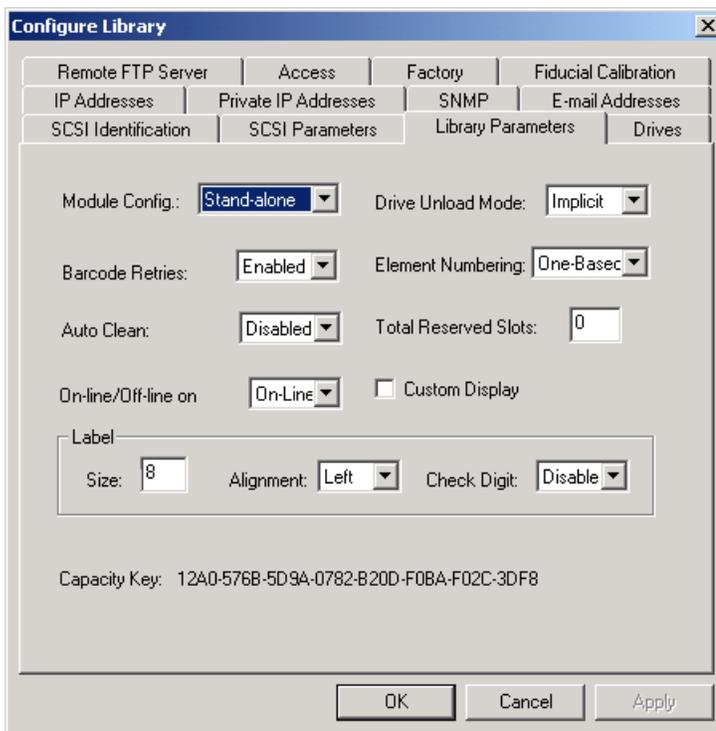

Figure 7-8: Configure Library Dialog Box—Library Parameters Tab
1. Click the **Library Parameters** tab to bring it to the front (Figure 7-8).